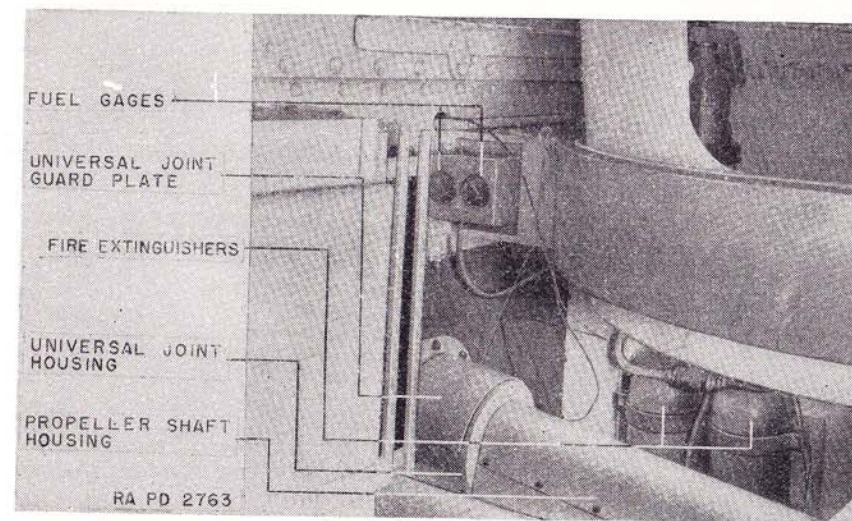

FIGURE 38.—Interior view, right side of bulkhead.
**65. Gages** (fig. 38).—Two electrically operated fuel gages are mounted in a small box located near the oil cooler in the rear of the